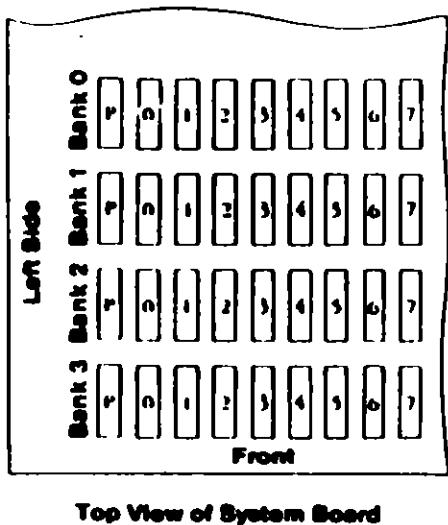

Figure 2. System Board
- Find the failing bank and module in Figure 2 on page 0200-4